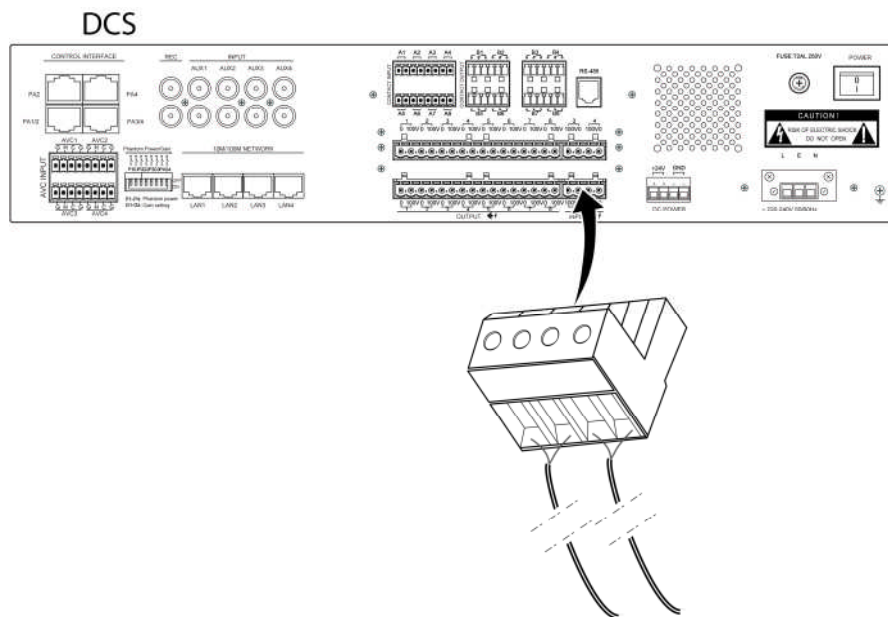

Figure 15 Schematic Diagram of the Audio Input Wiring Terminal Installation
- f. Insert the power amplifier input wiring terminal of the installed audio output cable into the DCS PA audio input port, as shown in Figure 15.